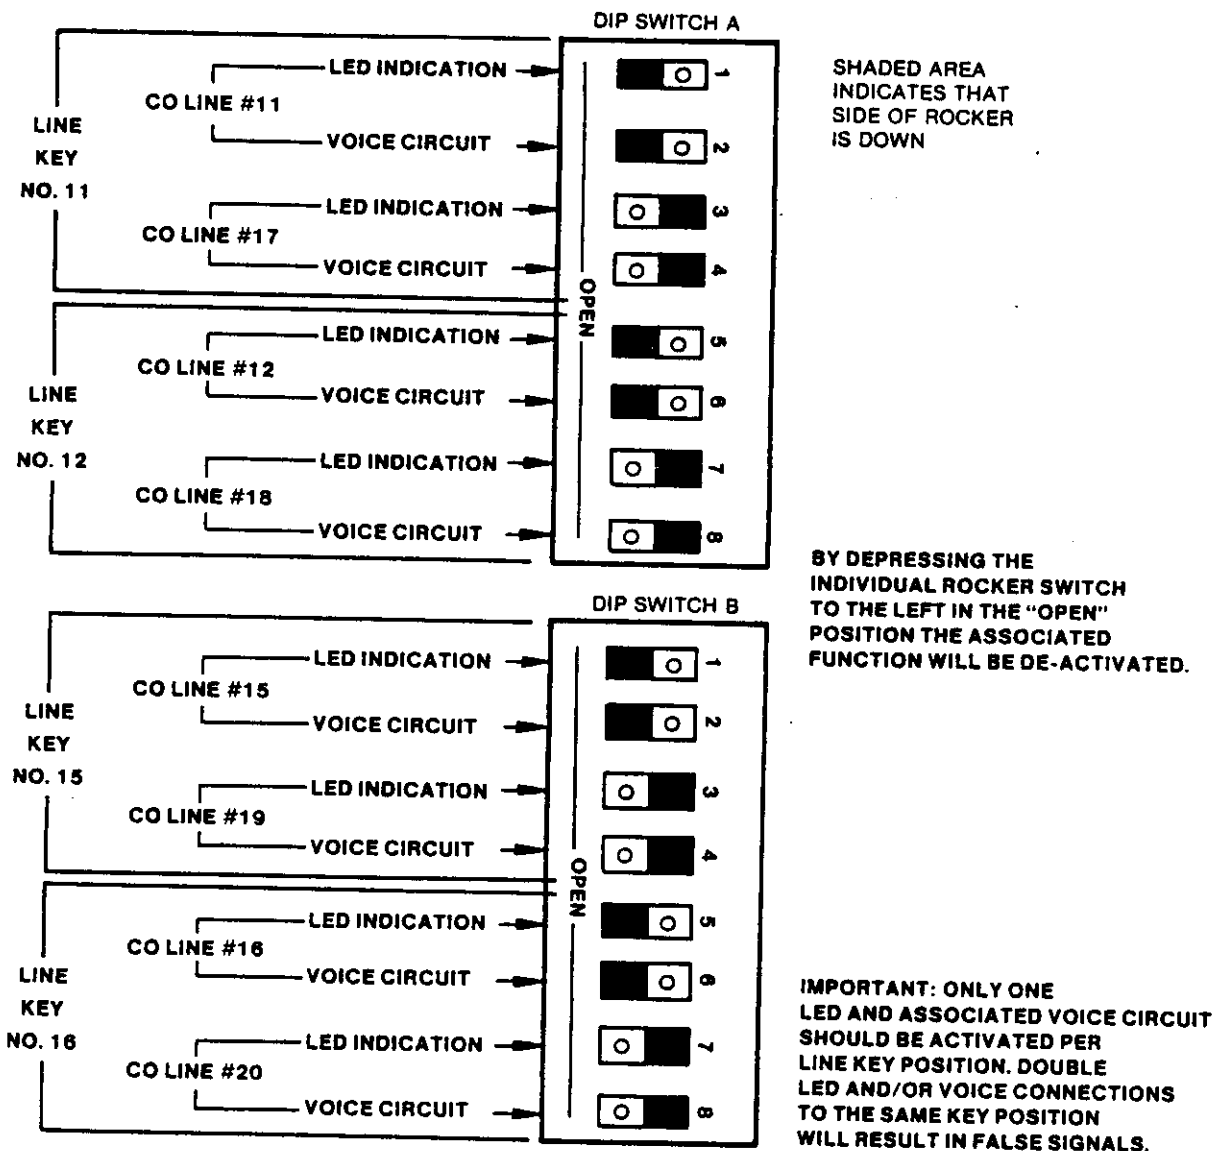

FIGURE 13 — C.O. LINES #17 to #20 SUBSTITUTED FOR LINES #11 and #12 & #15 and #16
6.3.2 If C.O. Line #17 is to appear on Line Key No. 11 and be accessible from the EKT, rockers 1 and 2 should be in the OPEN position and rockers 3 and 4 should be in the CLOSED position on Dip Switch A. See Figure 13.
6.3.3 To have C.O. Line #18 appear on and be accessible from Line Key No. 12, set rockers 5 & 6 in the OPEN position and 7 & 8 in the CLOSED position on Dip Switch A as shown in Figure 13.
6.3.4 To have C.O. Line #19 appear on and be accessible from Line Key No. 15, set Dip Switch B rockers 1 & 2 in the OPEN position and 3 & 4 in the CLOSED position. See Figure 13.
6.3.5 If C.O. Line #20 is to appear at and be accessible from Line Key No. 16, set rockers 5 & 6 in the OPEN position and 7 & 8 in the CLOSED position on Dip Switch B. See Figure 13.